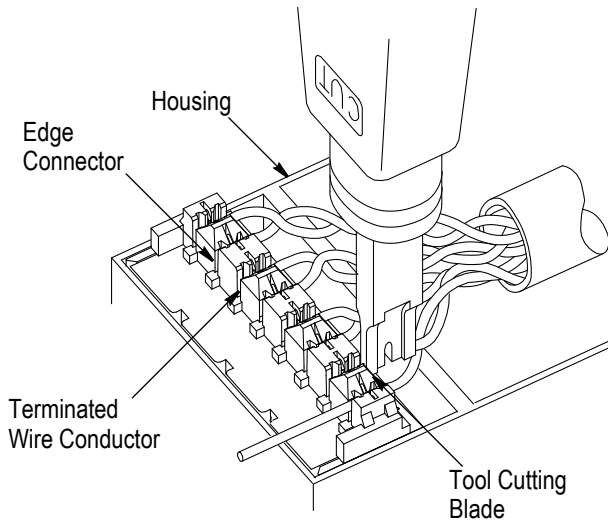

Figure 4
- c. Terminate the wire conductors to the edge connector using Impact Tool 1583608-1, 1583608-2, or 1375308-1. See Figure 4.
It is recommended to use the low impact setting of the tool. Use the cutoff blade to trim the conductors. Wire should be in the bottom of the slot; if not, punch it down again. Remove loose wire pieces. Refer to Figure 4.